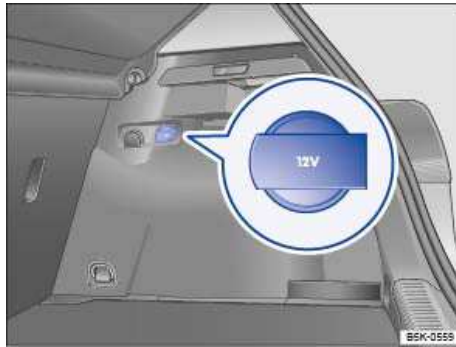

Fig. 120 In the luggage compartment: 12 Volt socket.
- In the luggage compartment ⇒ fig. 120.